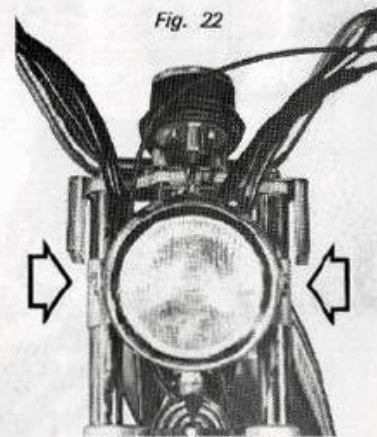

Fig. 22
- Slightly loosen the two headlight adjustment bolts (Fig. 22).